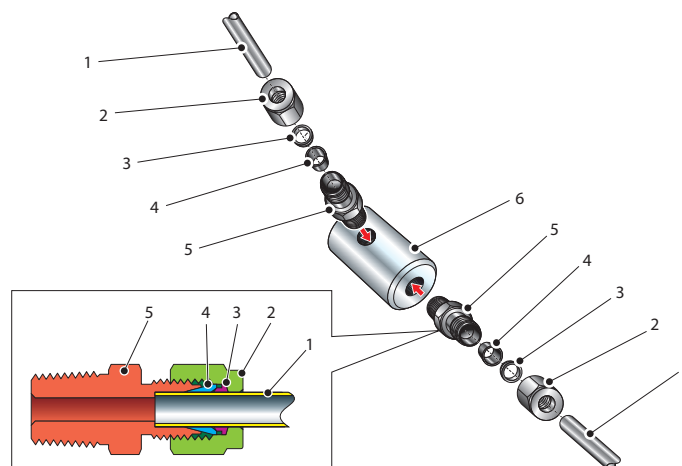

Figure 23 Sample Block Gas Connections
Sample gas connections are made to the Gas In and Gas Out ports on the sample block see *Figure 23*. Either port on the sample block may be used as the Gas Input port (i.e. for connection purposes the ports are interchangeable).
Both the Input and Output gas connections are $\frac{1}{8}$ " NPT. It is recommended that both the Gas Input and Output connections are made via $\frac{1}{8}$ " NPT to 6mm or $\frac{1}{8}$ " NPT to $\frac{1}{4}$ " stainless steel tube adaptors (2 to 5 – *Figure 23*). The method of connection to the sensor block (6) is as follows:
3. Switch on the power supply to the instrument. The instrument display will now come on, typically showing the default parameters and units as detailed in *Figure 23*.